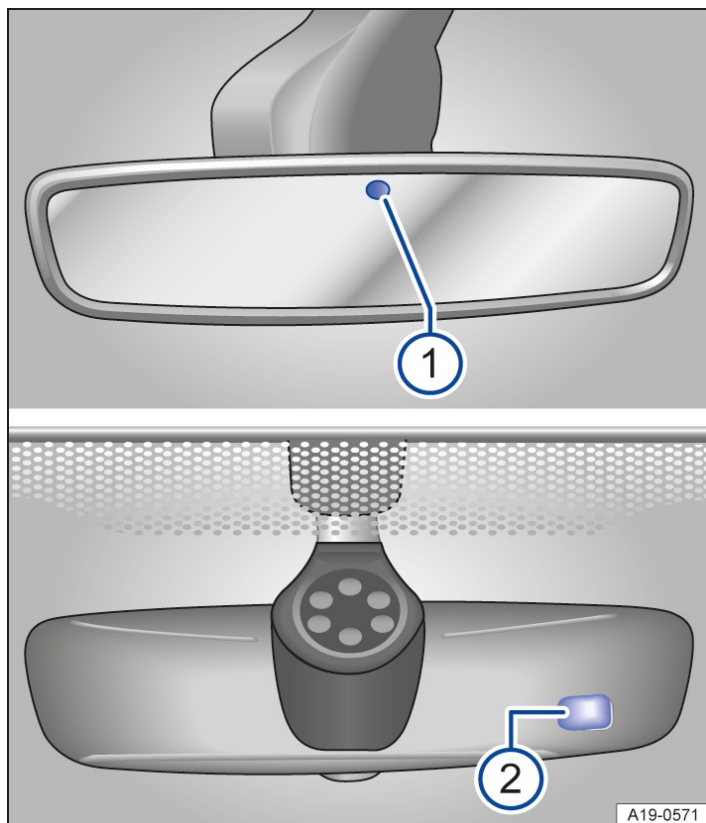

Fig. 1 On the windscreen: automatic anti-dazzle interior mirror.
When the ignition is switched on, the sensors measure the incident light from the rear → Fig. 1 ① and from the front ②.